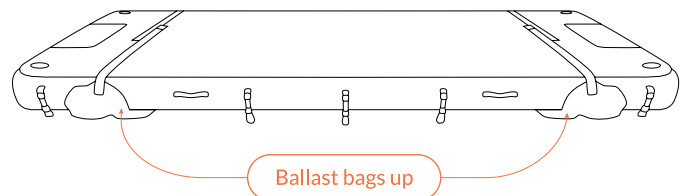

Fig 41 – Ballast bags empty and secured to the Platform
1. Ensure the Ballast Bags are empty, in the up position and with the strap held securely in place to the Velcro strips on top of the Platforms (Fig 41). See Stage 1 Emptying Ballast Bags (page 21) for full instructions.
2. Ensure that the ballast bag straps are secured their entire length to the Velcro strips on top of the Platform. This can be done by tucking the top end of the strap under the opposing ballast strap (Fig 41).